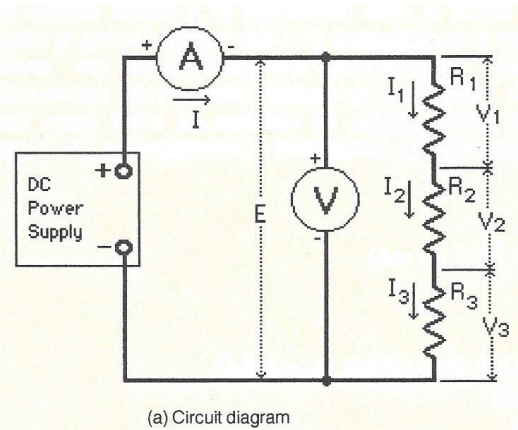

Figure 2
4. Connect the Power Supply, voltmeter, ammeter and resistors as in Figure 2. (see below)
10. Remove the voltmeter and reconnect the components as shown in Figure 2.